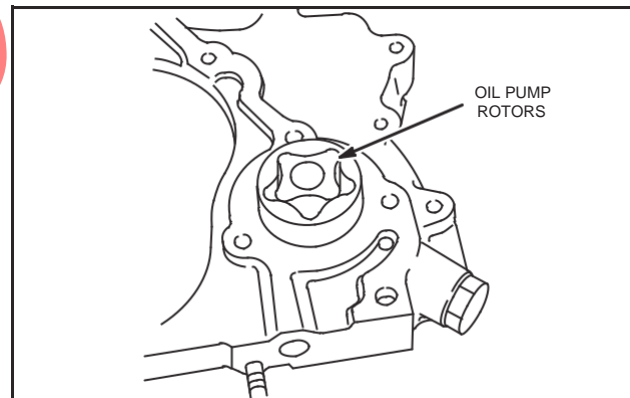

Fig. 13 – Inspect Rotors
8. Inspect rotors for wear or damage, Fig. 13.